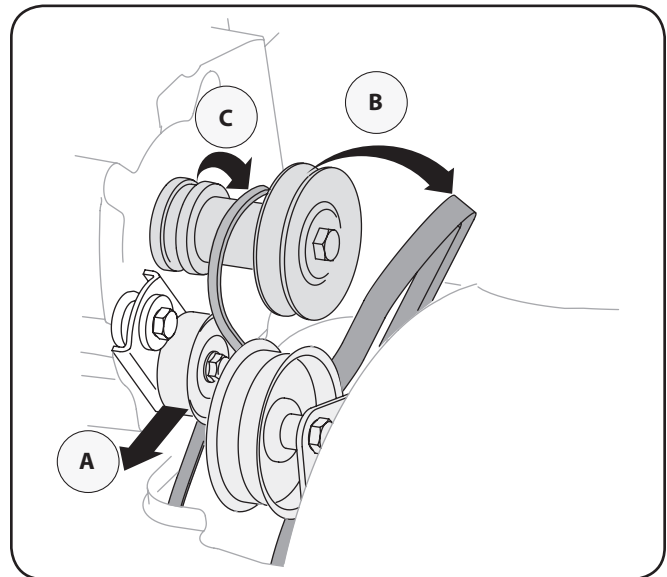

Figure 7-6
- Use a wrench to pivot the idler pulley toward the right. See Fig. 7-6.